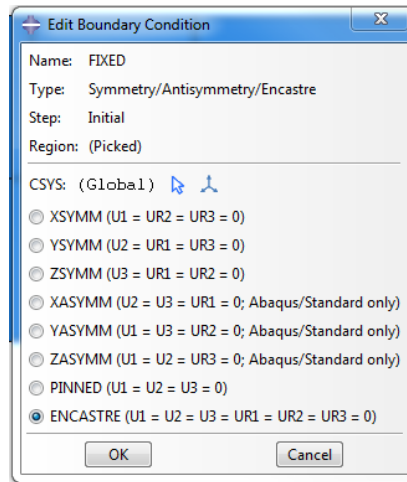

Figure 28. Edit Boundary Condition Dialog Box
- The **Edit Boundary Condition dialog** box will immediately appear. Click **ENCASTRE (U1=U2=U3=UR1=UR2=UR3=0)**. The **Edit Boundary Condition dialog** box should look identical to that in Figure 28.